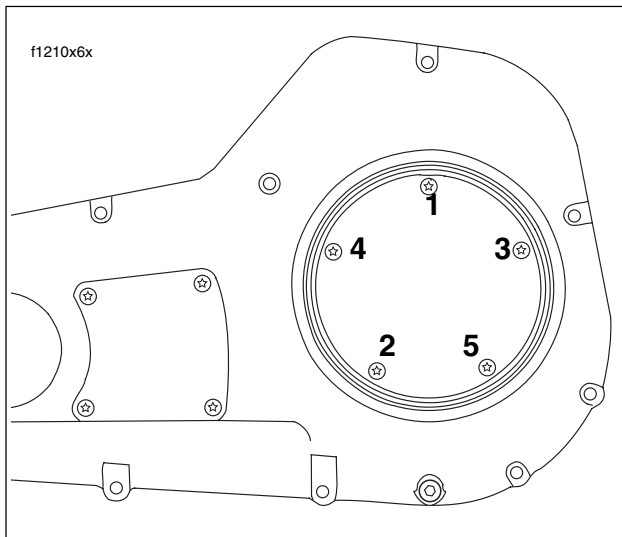

Figure 6-44. Clutch Inspection Cover Torque Sequence
- 27. Using a T27 TORX drive head, install five screws (with captive washers) to secure clutch inspection cover to the primary chaincase cover. Alternately tighten screws to 84-108 in-lbs (10-12 Nm) in the pattern shown in Figure 6-44.